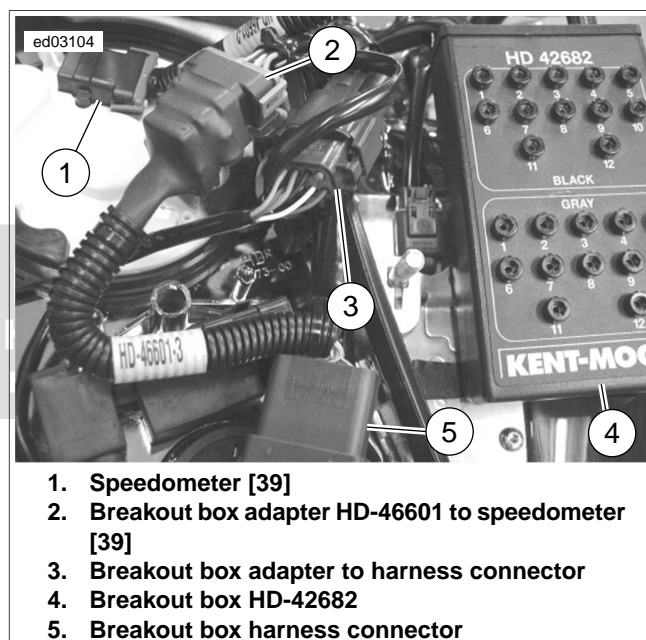

Figure 1-19. Breakout Box Connection
2. See Figure 1-19. Press latch and disconnect [39B].